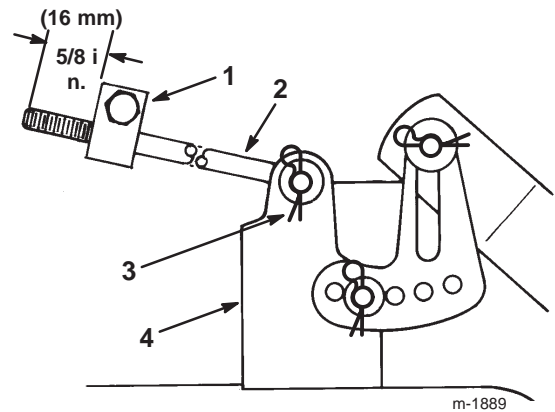

Figure 49
- Measure the length of the rod extending out of the front of the adjusting block on the sides of the chassis (Fig. 49). If the rod length is not 5/8 in. (16 mm), remove the hairpin cotter and washer from the end of the rod (Fig. 49) and turn the rod until it extends out 5/8 in. (16 mm).